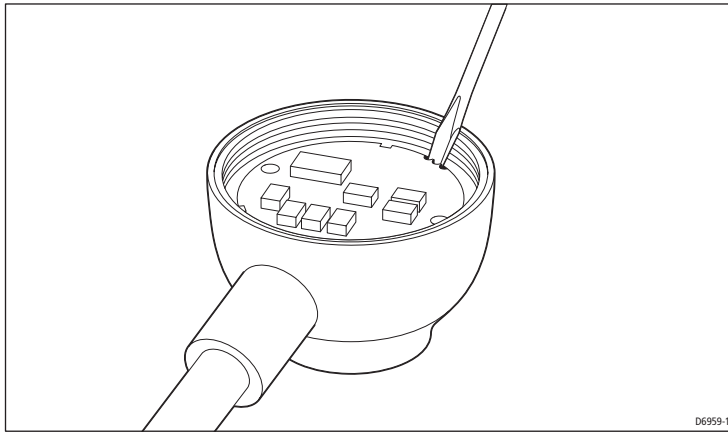

Figure 2: Easing out PCB
1. Remove and retain the screw (item 1) that secures the assembled wind vane (item 2) and balance weight (item 3) to the top pod (item 4) shaft, then pull the vane and balance weight from the shaft.
2. Remove and retain the screw (item 11) that secures the anemometer cups (item 10) to the bottom pod (item 9) shaft, then pull the cups from the shaft.
4. Remove the O-ring seal (item 5).
5. Referring to *Figure 2*, insert a suitable tool (e.g. small screwdriver) into the breakout holes at the edge of the PCB (item 6), then use the tool to GENTLY ease the PCB from its recess in the bottom pod.